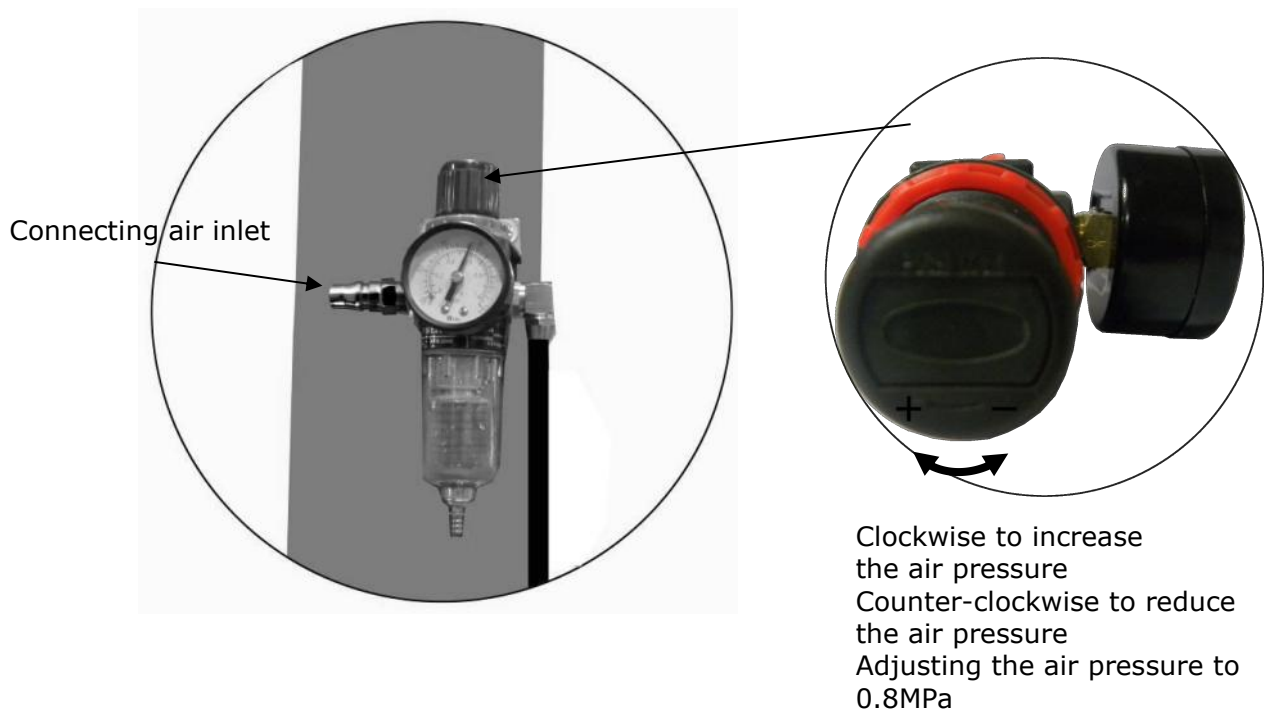

Fig. 32
6. Connecting air inlet (Air supply pressure $5\text{kg}/\text{cm}^2 \sim 8\text{kg}/\text{cm}^2$), adjusting the air pressure of Oil-water separator to 0.8MPa (**See Fig. 32**).